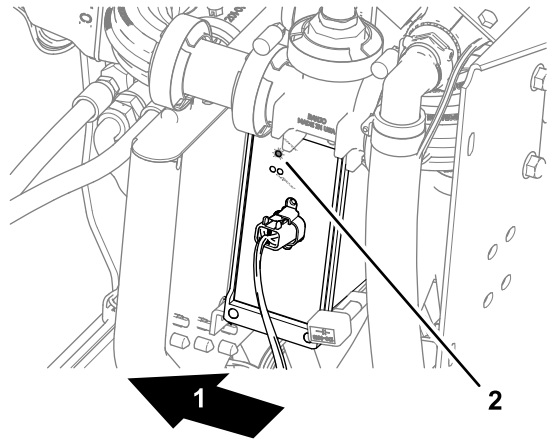

Figure 193
- Automatic section controller—the STATUS indicator illuminates (Figure 193)